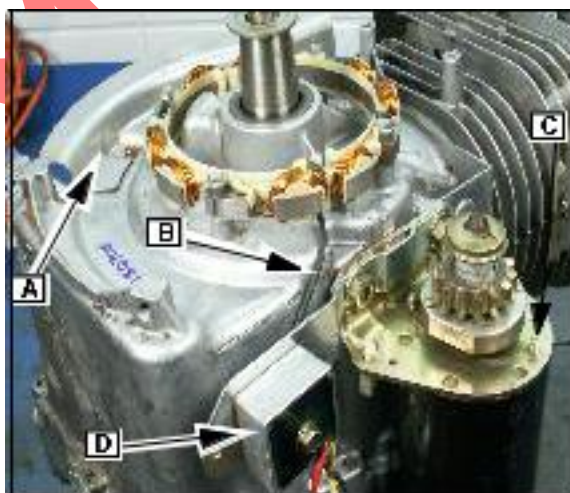

Fig. 49
Install flywheel guard ([A] Fig. 49).
Install alternator with the power output wires positioned as shown ([B] Fig. 49).
Install starter motor (C) with the bracket for the voltage regulator ([D] Fig. 49).